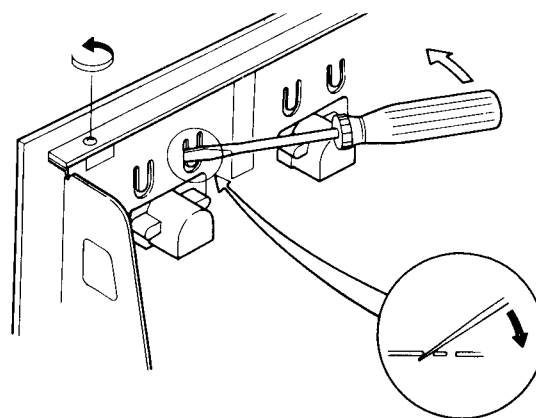

Fig. 15
1. The degree of 'play' in the attachment of the level meters should be adjusted with reference to Fig. 15.